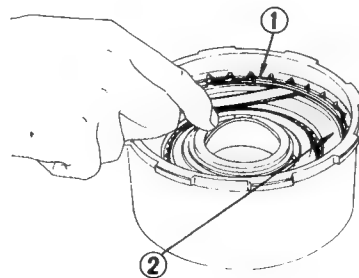

Fig. AT-83 Measuring ring to plate clearance
3. After clutch is assembled, make sure that clearance between snap ring ① and retaining plate ② is held within specified limits. If necessary, try with other plates having different thickness until correct clearance is obtained. See Figure AT-83.